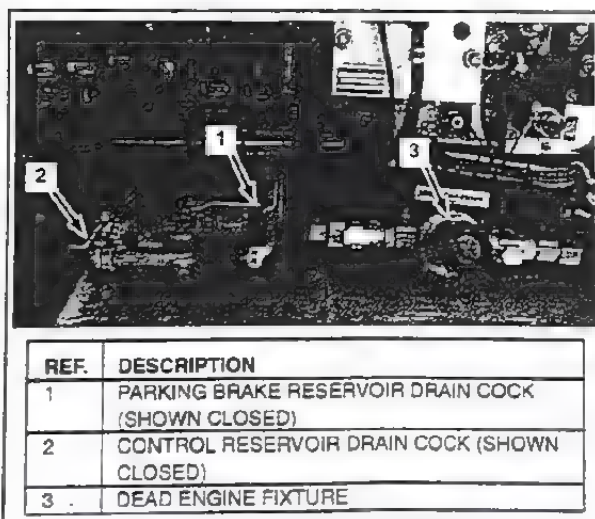

FIG. 27. CONTROL AIR AND PARKING BRAKE RESERVOIR CUT-OUT COCKS. E-42743.
8. Parking Brake Reservoir Drain cock - Located in air brake compartment (Item 1, Fig. 27) and accessed from outside locomotive.
9. Control Air Reservoir Drain cock - Located in air brake compartment (Item 2, Fig. 27) and accessed from outside locomotive.